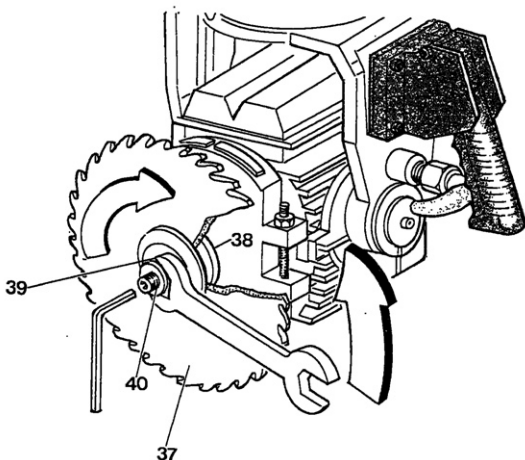

Fig. 14
Fix the blade (37) to the driving shaft between the rear flange (38) and the front flange (39) bearing in mind that the stop nut (40) and the driving shaft both have left handed threads (see fig.14).